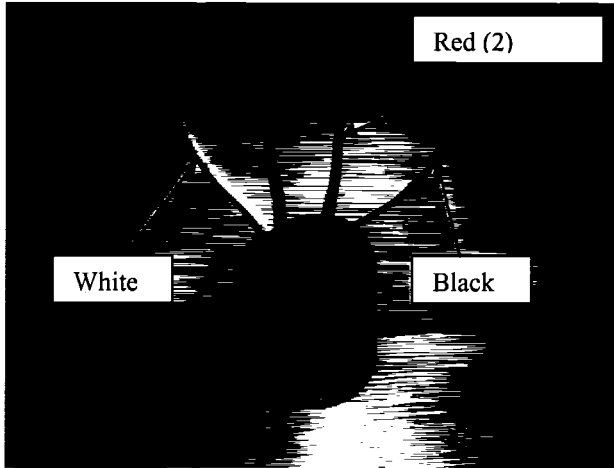

Figure 1
- Step 4** Using a new switch, connect the wire pair with 12-volts present to the side of the switch marked "DC IN". The red wire on the switch goes to the colored positive 12-volt wire from the unit and the black wire on the switch goes to the white ground wire from the unit. See Figure 1 and 2.
- Step 5** Connect the other pair of wires to the "DC OUT" side of the switch. The colored wire from the unit goes to the red wire on the switch and the white wire from the unit goes to the white wire on the switch. See Figure 1 and 2.